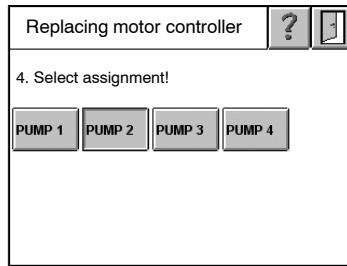

Fig. 7-10
4. Select assignment. Touch  to go to Fig. 7-10.